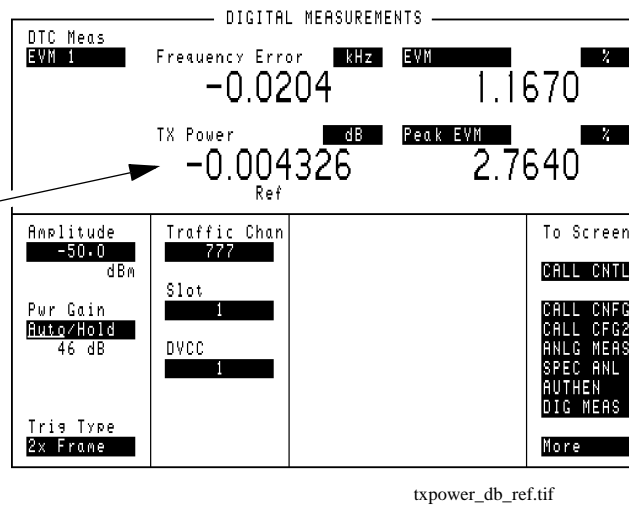

Figure 48 Setting a Relative TX Power measurement reference.
2. Go to the DIGITAL MEASUREMENTS screen and enter the channel number for the reference signal in the **Traffic Chan** field. Refer to Figure 48 on page 133.